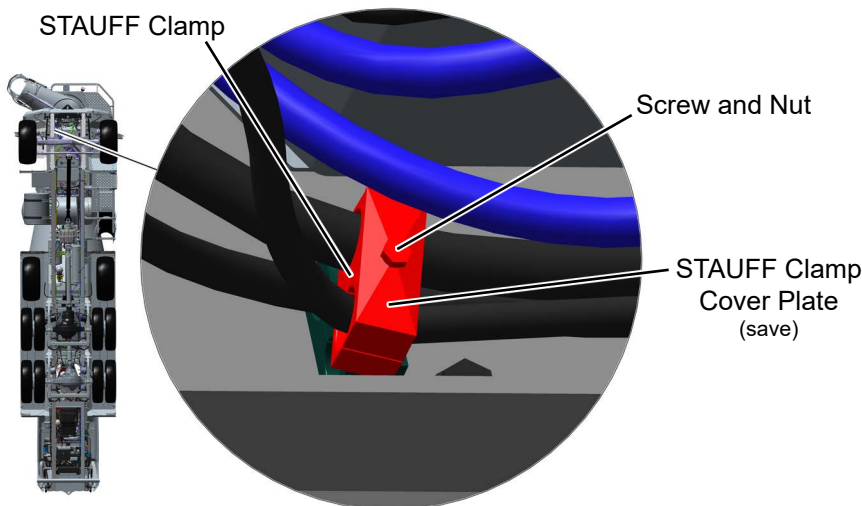

Figure 1
3. Locate STAUFF clamp on inside front of right-hand frame rail. See Figure 1.
4. Loosen and remove screw and nut securing STAUFF clamp to frame rail. See Figure 1. Locknut and screw will not be reused.